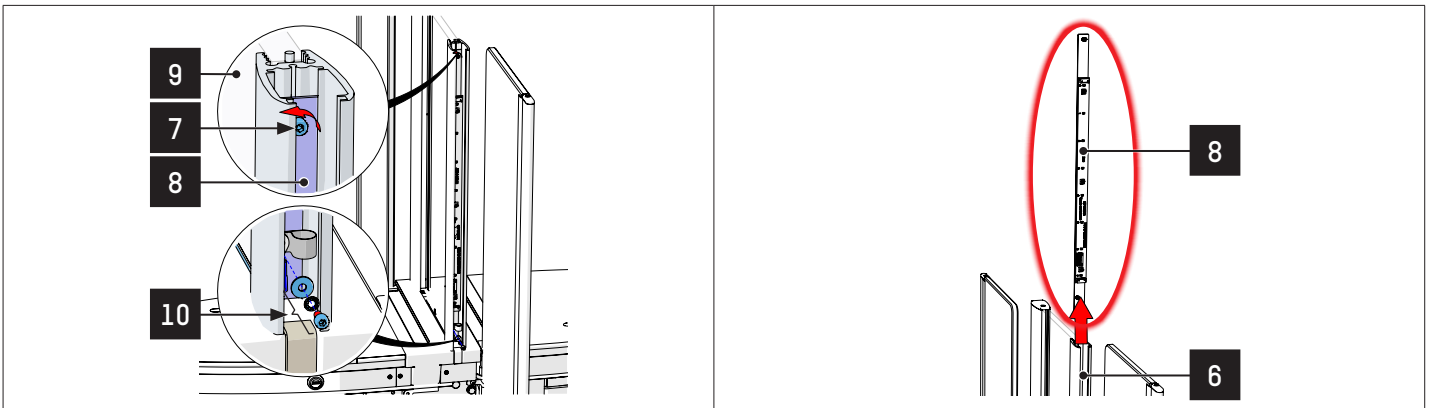

Fig. 89 - DIRAS cell removal
**For a DIRAS cell:** (⇒ Fig. 89)
5. Remove the fixing elements (10) of the cable on the cell support;
6. Without unscrewing it, loosen the pressure screw (7) of the cell support (8) so as to disconnect the cell assembly from the fixed obstacle (9);
7. Remove the DIRAS support assembly by sliding it upwards into the aluminium profile (6).